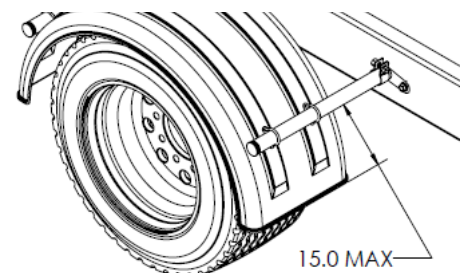

Figure 4
- D. If possible, position the brackets on the leading edge of the fender are within 15" of the bottom of the fender to avoid wind blowing the fender back into the tire (Figure 4).